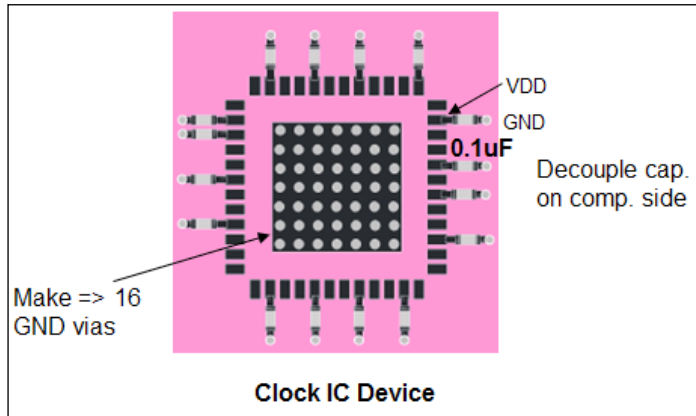

Figure 3. Layout guidance for VDD decoupling
0.1μF bypass capacitors should be used for each VDD pin, a 1μF capacitor in parallel can be used for better decoupling. The decoupling capacitor on component side has better decoupling filter result. So place the 0.1μF capacitor as close to the device as possible as shown in Figure 3.